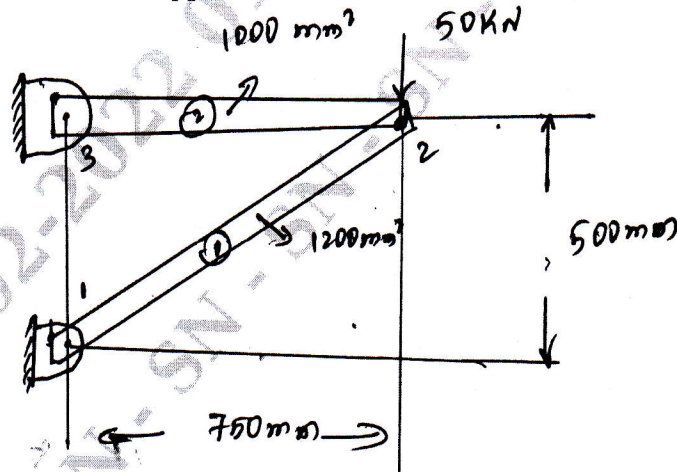

Fig Q6(b)
b. For the two bar truss shown in Fig Q6(b). Determine the Nodal displacement and the stress in each member. Also find the support reaction. Take $E = 200 \text{ GPa}$.